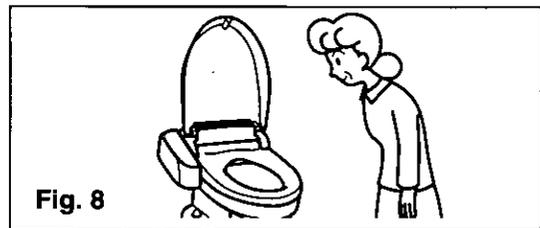

Fig. 8
8. When a handicapped person or a child uses this appliance, adjust the operating controls for them and take all possible safety precautions. (Fig. 8)